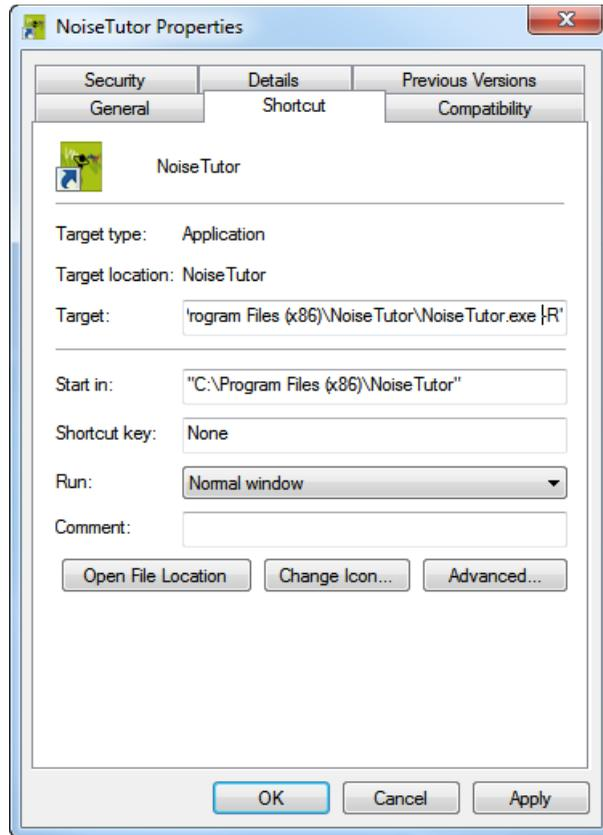

FIGURE 3-2 NoiseTutor Properties
Step 3 In the **Target** field, replace **C:\Program Files\NoiseTutor\NoiseTutor.exe** with **C:\ProgramFiles\NoiseTutor\NoiseTutor.exe -R**, as shown in FIGURE 3-2.